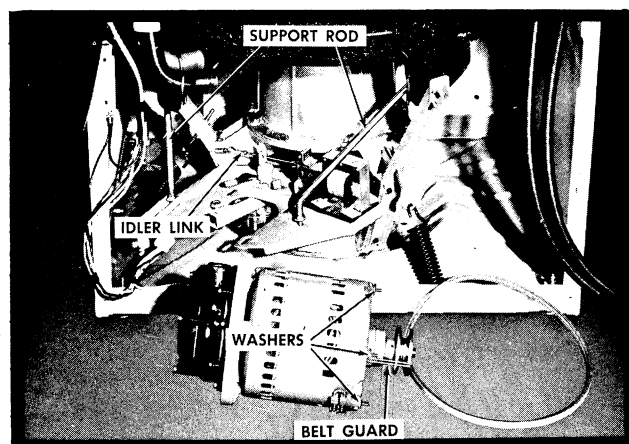

Figure 60
11. Lift motor and pump assembly off of bracket, *Figure 60*.